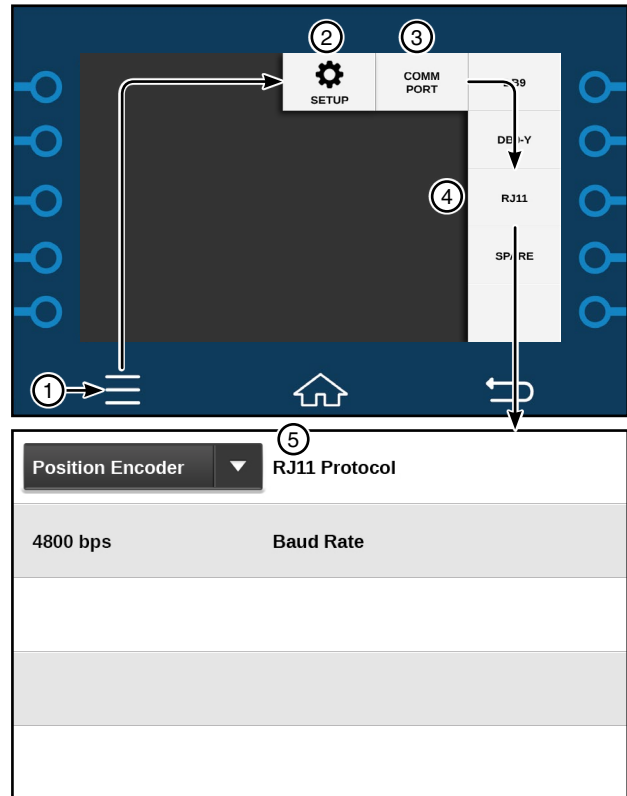

Figure 40-1 1. Menu 2. Setup 3. Comm Port 4. RJ11 5. RJ11 Protocol
- (b) Select the **RJ11 Protocol** field and choose **Position Encoder** from the list. See Figure 40-1.